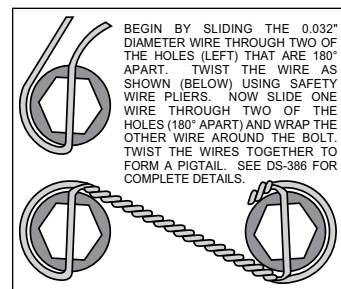

Figure 3. Safety Wire Diagram
- With the larger I.D. side of the rotor (3) facing away from the hat (4), bolt rotor (3) to hat (4) through the backside of the rotor using washers (5) and bolts (6). Apply red *Loctite*® 271 to the bolt threads and torque to 155 in-lb using a criss-cross pattern. For an added measure of security, the bolts may be safety wired using standard 0.032 inch diameter stainless steel safety wire as shown in Figure 3. Please refer to Wilwood's data sheet DS-386 (available at www.wilwood.com/Pdf/DataSheets/ds386.pdf) for complete safety wire installation instructions.